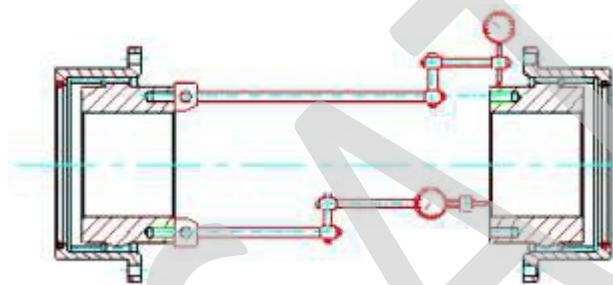
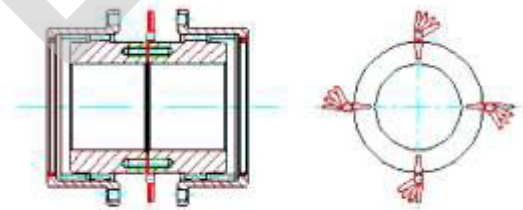
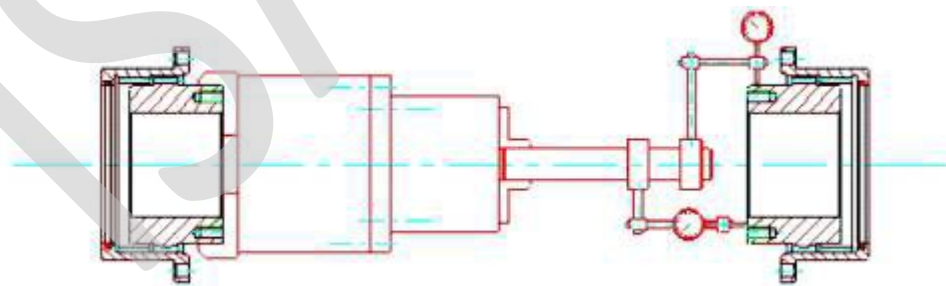

Fig.8
Fig.9
Fig.10
- 5) To ensure optimum lifetime of the gear coupling is necessary to perform the alignment of the shafts in a scrupulous way. To perform the alignment, use a comparator fixed on one of the two hubs and make it rotate on the other hub (fig.8), reading the value divided by two gives the value of the parallel misalignment. The angular misalignment must be checked with a comparator fixed on a hub and made to rotate on the facade of the other hub (fig.8), or with controlled thickness gauge in at least three position at 120°C (fig.9). In case of installation of gear couplings complete with extensions run laser alignment, if you can not use the laser, follow the instructions according to the figure 10.